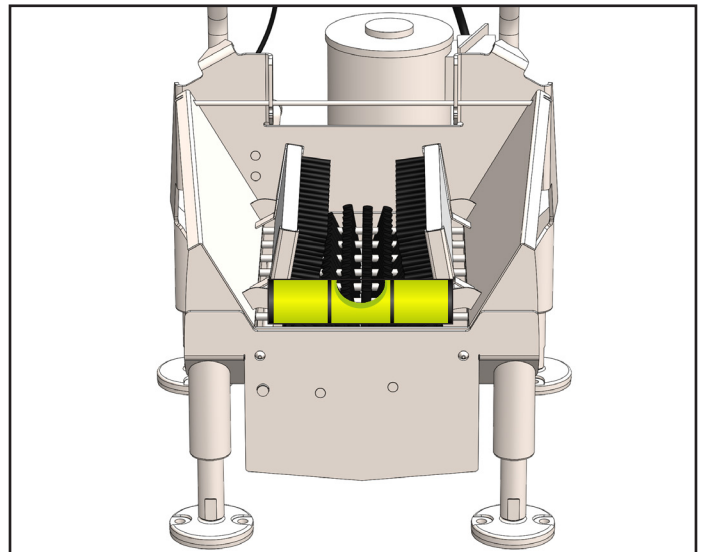

Fig. 5.1: Level and stabilize unit using a leveling device
3. Use a level to make sure the unit is stable and leveled in all directions [Figure 5.1].